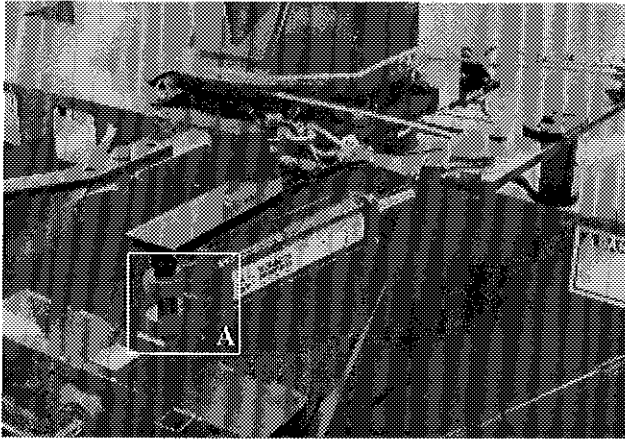

Figure 27
- 7) Install hydraulic cylinder with fittings facing down. Install end A of cylinder body as shown (Fig. 27) and install pin to secure it in place. Connect rod end to pivot plate.